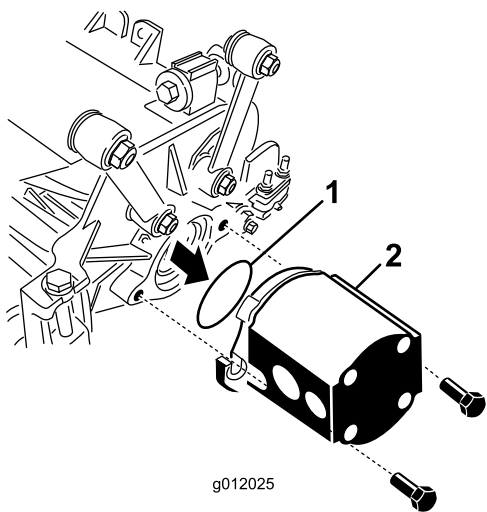

Figure 24
- Insert the O-ring (supplied with the cutting unit) on the flange of the drive motor (Figure 24).
6. Mount the motor to the drive end of the cutting unit, and secure it with 2 cap screws provided with cutting unit (Figure 24).